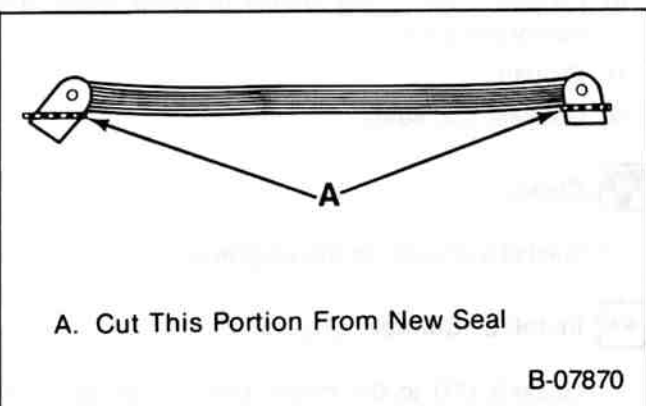

Figure 15—Front Oil Pan Seal Modification
- Cut the tabs from a new seal (figure 15). Use a sharp cutting tool to ensure a clean cut.